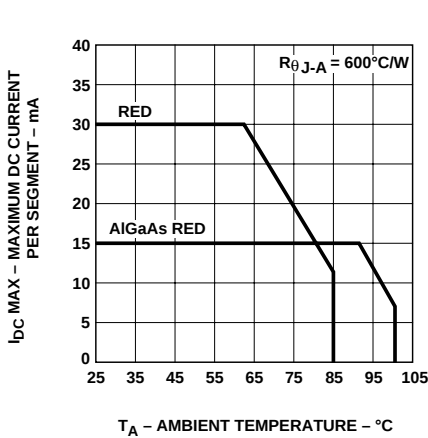

Figure 3. Maximum Allowable DC Current vs. Ambient Temperature. $T_{JMAX} = 100^\circ\text{C}$ for Red and $T_{JMAX} = 110^\circ\text{C}$ for AlGaAs Red.
- Derate maximum DC current for Red above T_A = 62°C at 0.79 mA/°C, and AlGaAs Red above T_A = 91°C at 0.8 mA/°C. See Figure 3.